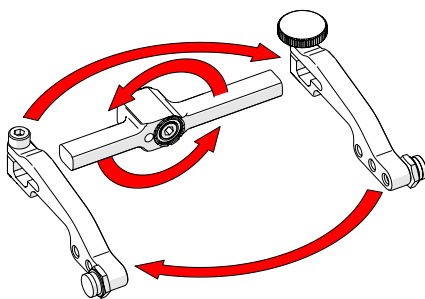

Fig. 144 - Flip yoke and reverse arms
4. Flip the yoke 180° and reverse the probe holder arms (Fig. 144).